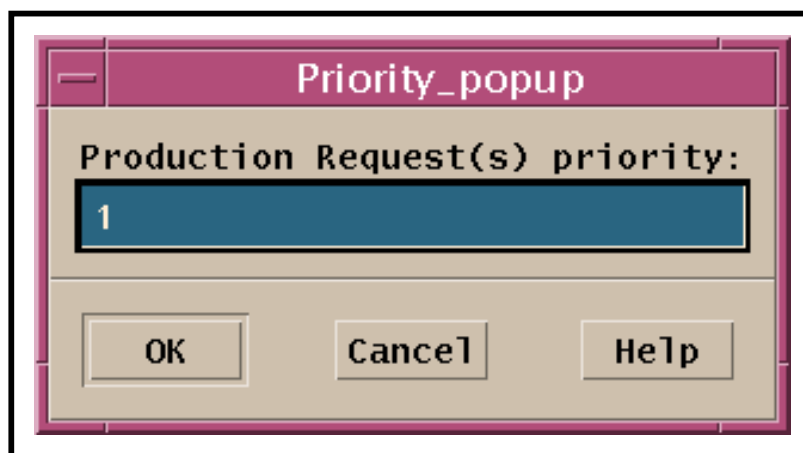

Figure 45. Priority Popup Window
- The **Priority popup** window (Figure 45) is displayed.